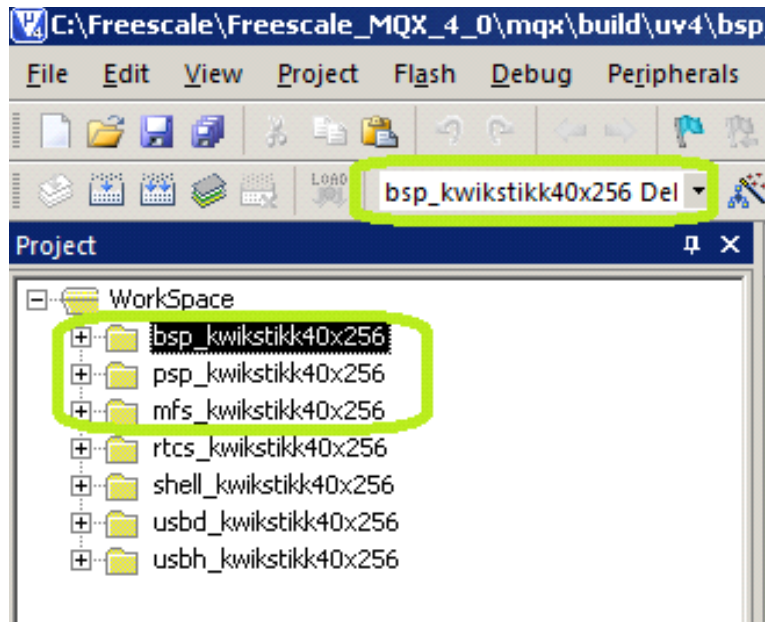

Figure 4. Building MQX libraries
5. Open the MQX “build\_libs” project (file: “build\_libs.uvmpw”) “bsp\_kwikstikk40x256 Debug” has to be selected as active target -Figure 4.